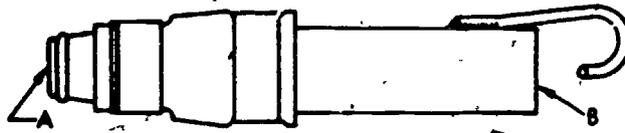

Figure 6. MH-1 Demand Valve Leak Tester.
1. Plug end "A" of the MH-1 tester (figure 6) into the female connector of the mask-to-regulator hose.
6. Apply the solution across end "B" of the MH-1 tester (figure 6) to form a film of soap.